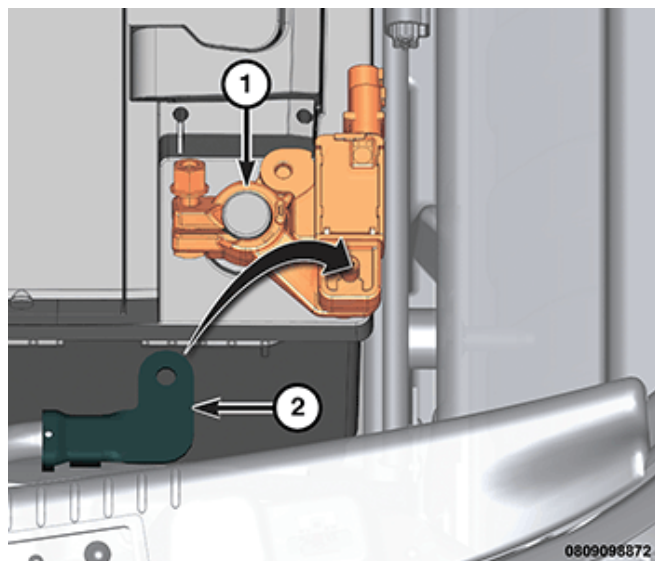

Figure 4 – Negative Cable Eyelet
6. Remove the battery negative cable eyelet (2) from the IBS M8 stud (Figure 4).
25. Connect the battery negative cable eyelet (2) to the IBS M8 stud (Figure 4).